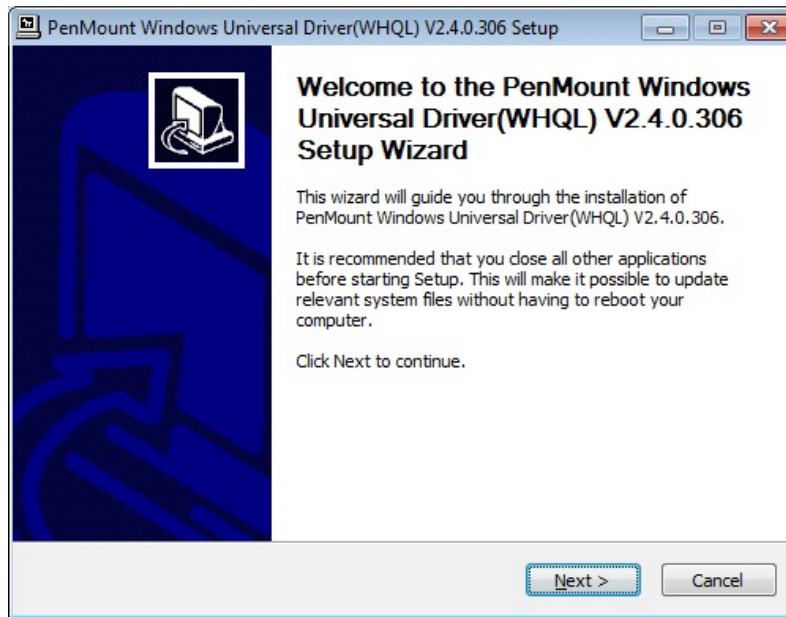

Figure 6-28: Welcome Screen
Step 3: The Welcome screen in **Figure 6-28** appears. Click **Next** to continue.